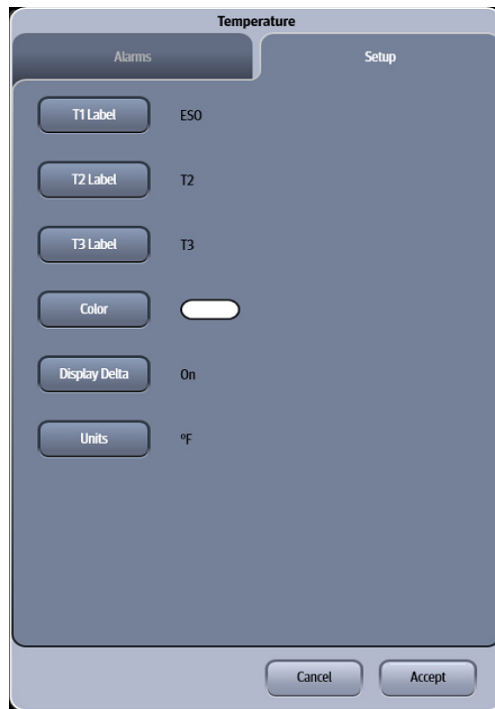

FIGURE 13-3 Example Temperature Dialog (Setup Tab)
2. Select the **Setup** tab (as shown in FIGURE 13-3).